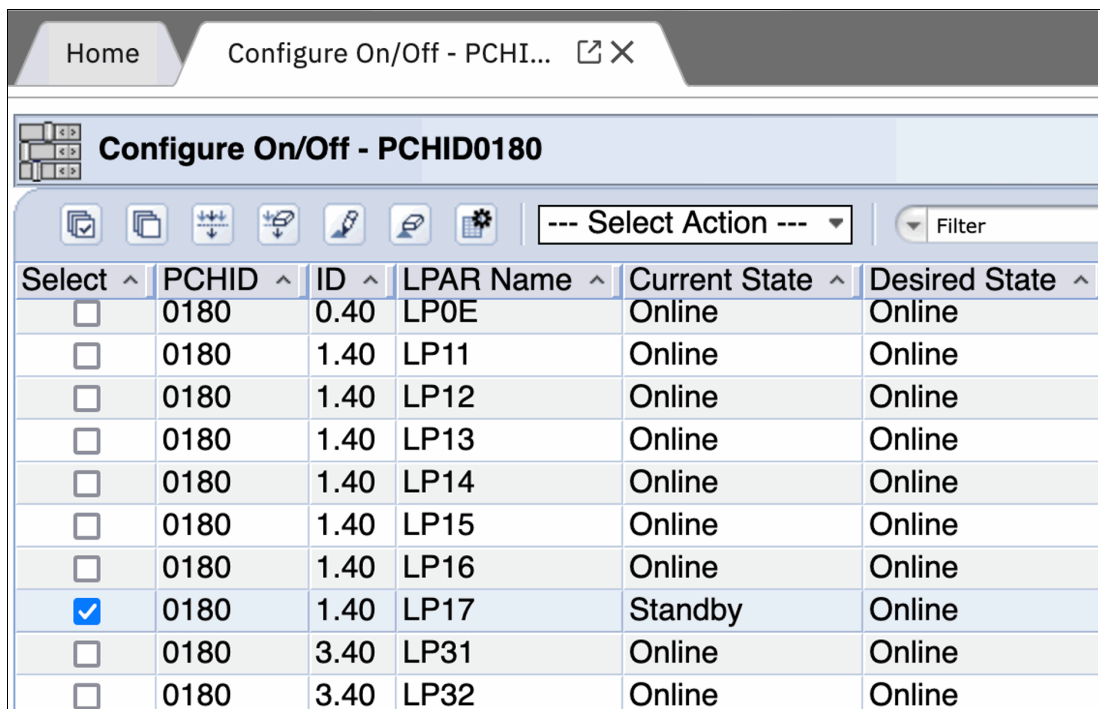

Figure 25 Updated panel
5. The panel updates to show our desired change, Click **OK**. See Figure 25.